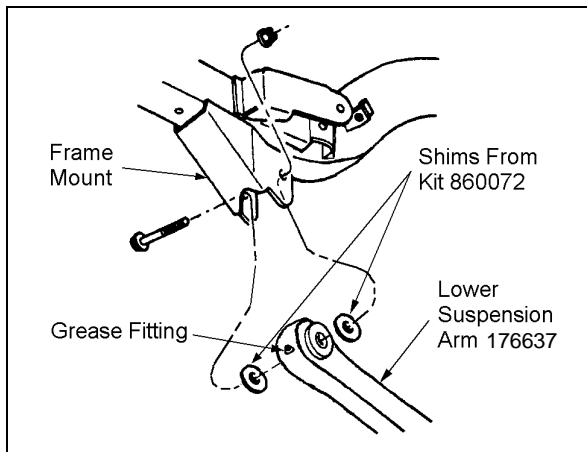

Figure 9
3. Install a new Rancho lower suspension arm, along with four shims from kit 860070, to the frame and axle brackets. See figure 9. Use original hardware but do not tighten.